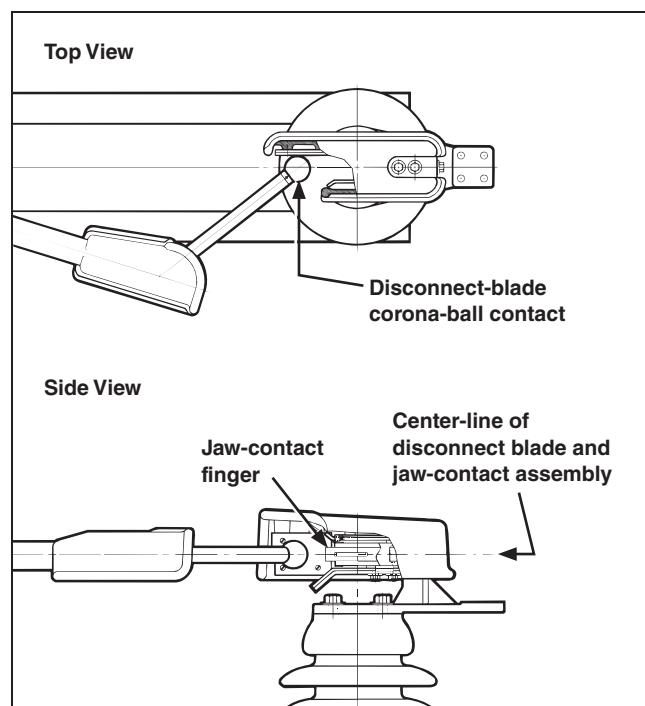

Figure 22. Checking the alignment of the disconnect blade and jaw contact.
STEP 3. Open the disconnect blade on each pole-unit. When the disconnect-blade corona-ball contact is clear of its jaw contact fingers as indicated in Figure 22 (top view), make sure the blade centerline has not shifted up or down by more than $\frac{1}{4}$ -inch (6 mm), as measured to the centerline of the jaw contact. Figure 22 (side view).